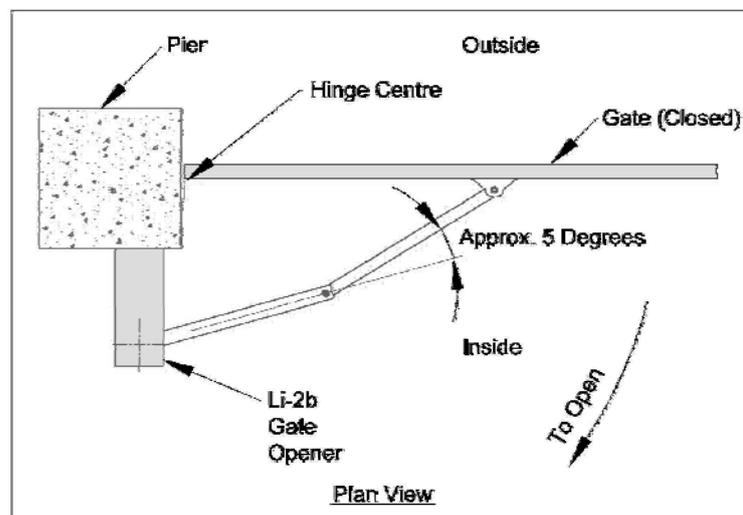

Figure 4: Standard installation.
5. The gate bracket should be positioned so the arms are ALMOST in a straight line when the gates are closed (See figure 4). To check the location of the gate brackets, first disengage the Main arm from the drive shaft (using the spanner provided, unscrew the bolt until the arm swings freely) THEN CLAMP THE GATE BRACKET IN POSITION. Open and close the gate to ensure the gate bracket is appropriately located.